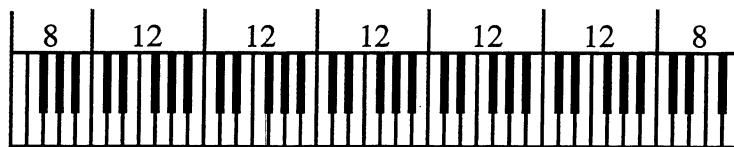

Figure 13 – Bubble strip lengths
6. Gently peel each key contact bubble strip from the two key contact PC boards. They should peel off with very little force. There are five strips of twelve bubble contacts, two strips of eight bubble contacts (see Figure 13).